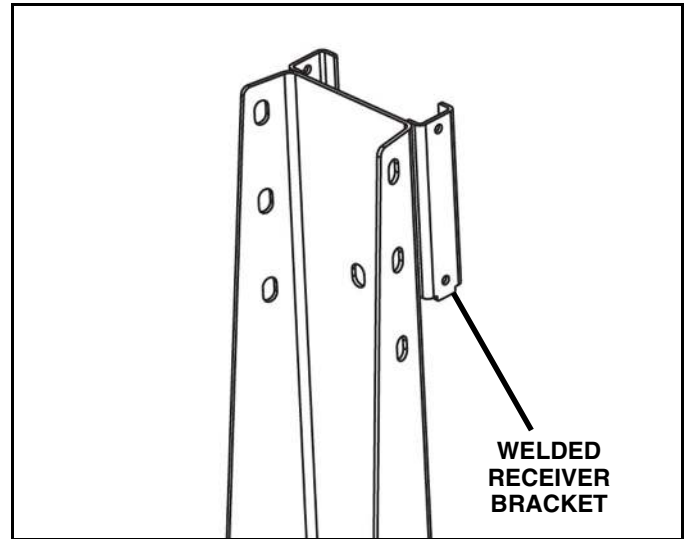

Figure 1-6
1. Skip Steps 2 and 3 if your spreader has a welded receiver bracket to hold the receiver (See Figure 1-6). The receiver bracket from the control box can be discarded.